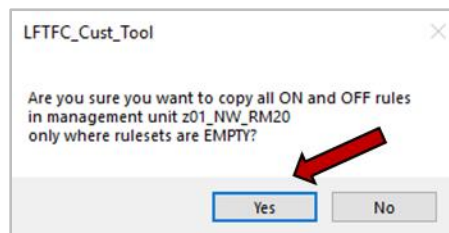

Figure 7-25: Verify that you want to copy all rules.
- Verify that you want to copy all On and Off rules by clicking Yes (Figure 7-25).